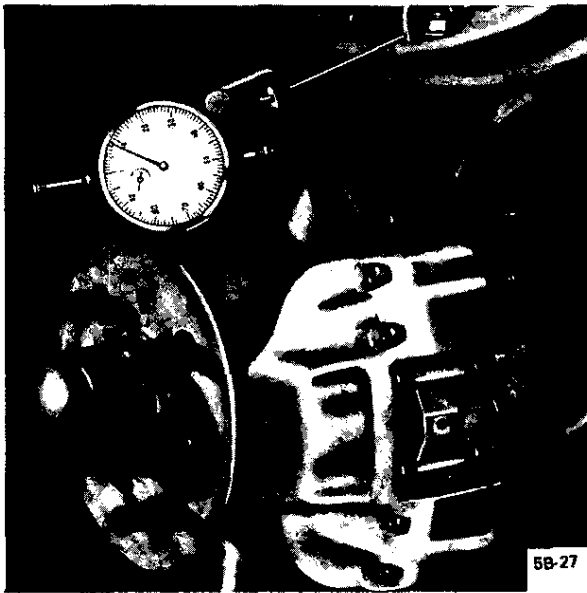

Figure 5B-27 Checking Brake Disc Lateral Runout
3. To check disc **runout**, use Dial Indicator Set J-8001. Attach dial support C-clamp to an upper ball joint attaching bolt as shown in Figure 5B-27. Position dial indicator button against brake disc 1/2 inch from outer circumference.